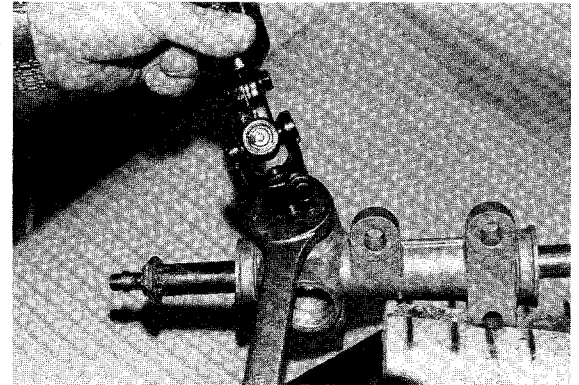

Figure 12-11
10. Reinstall universal joint on pinion (27) and place a large open end wrench under the universal joint. Tap wrench lightly with a hammer to remove pinion and bearing assembly (Figure 12-11).